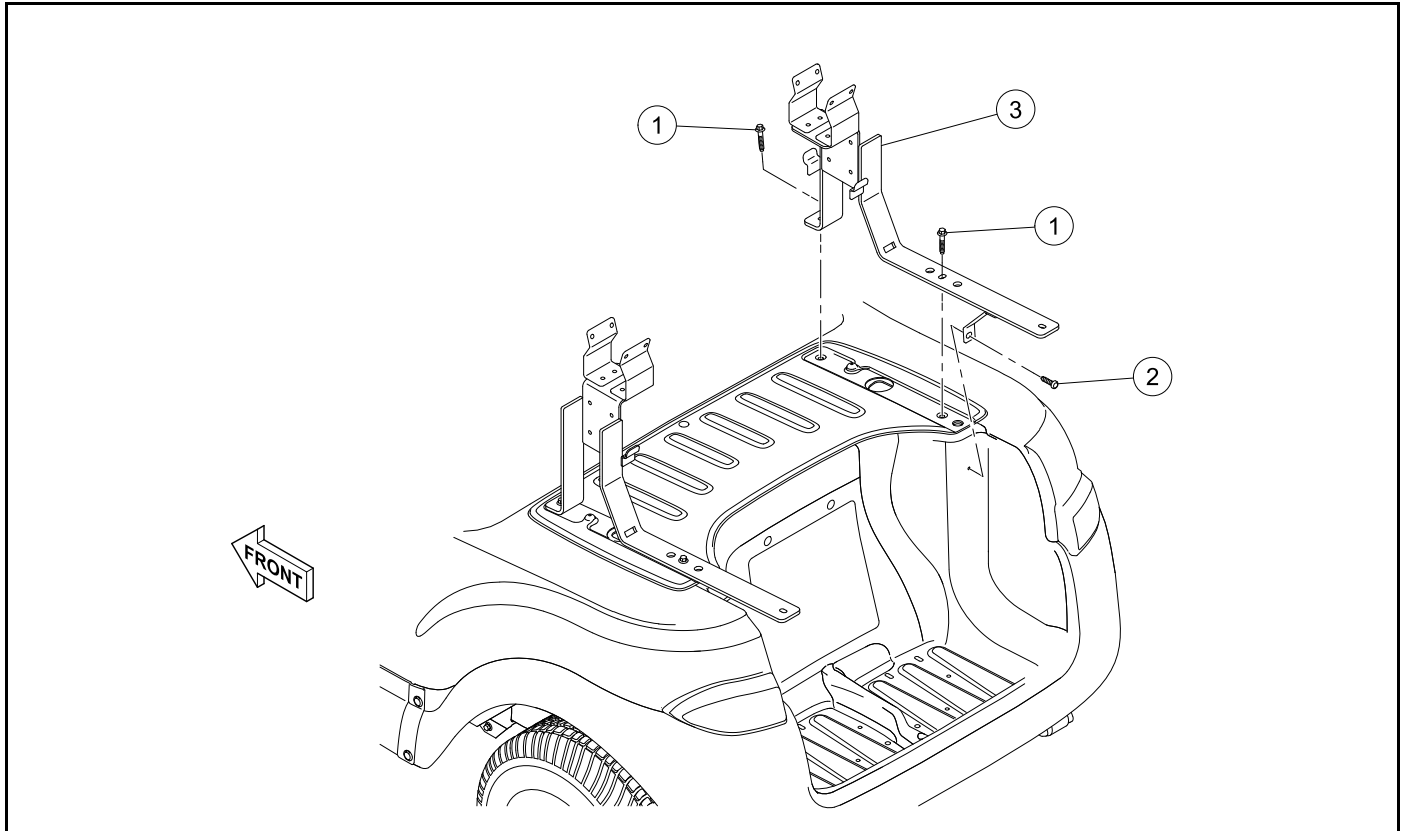

Figure 4-51
4. Remove the screws (1) (**Figure 4-51**).
5. Remove the screw (2).
6. Remove the seat support (3).
1. Install the seat support (3) onto the vehicle (**Figure 4-51**).
2. Install the screw (2). Tighten the screw to 13 lb·ft (17.5 N·m).
3. Install the screws (1). Tighten the screws to 7 lb·ft (10 N·m).